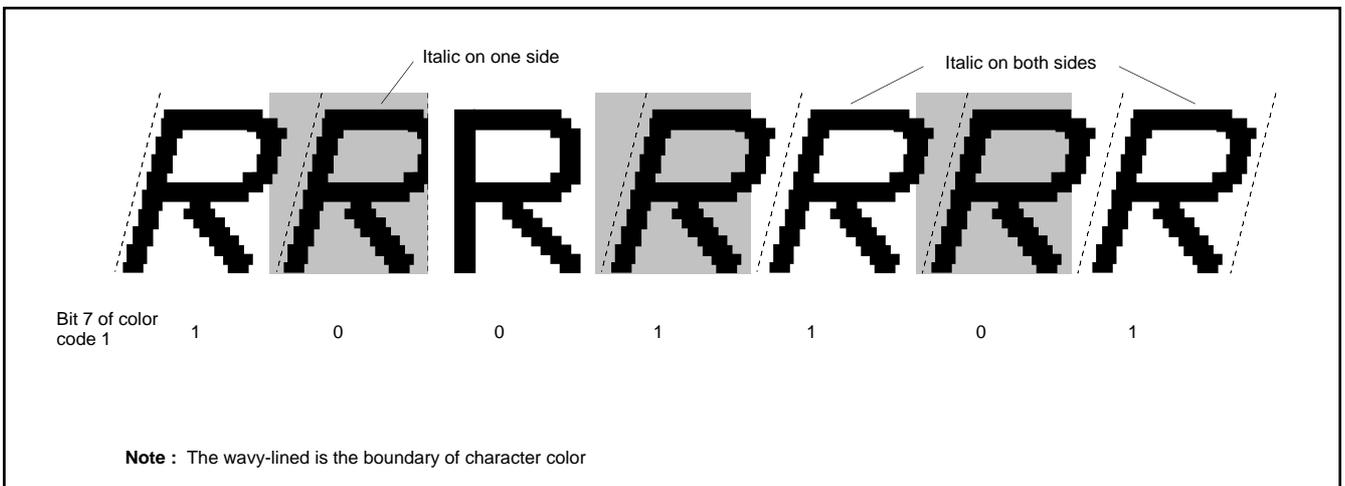

Fig. 69. Example of italic display
- 3:** The boundary of character color is displayed in italic. However, the boundary of character background color is not affected by the italic (refer to Figure 69).
- 4:** The adjacent character (one side or both side) to an italic character is displayed in italic even when the character is not specified to display in italic (refer to Figure 69).
④ Extra font